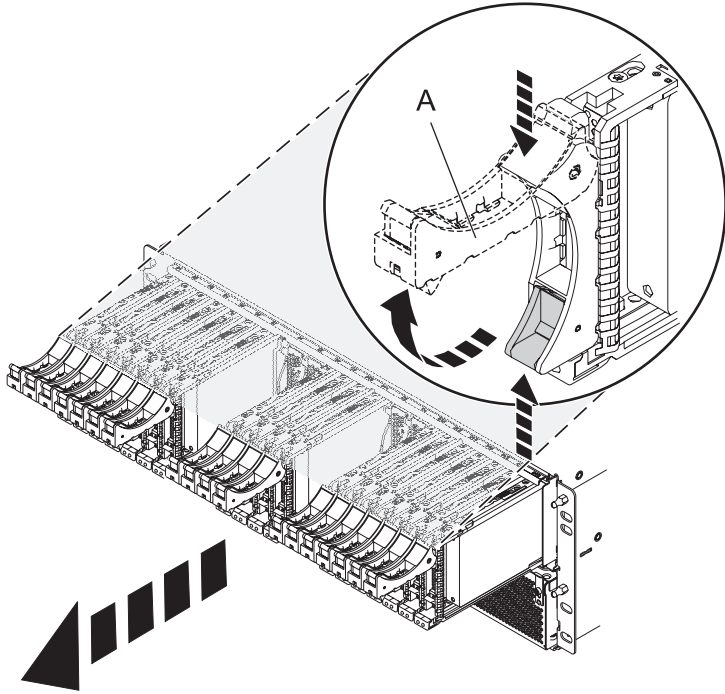

Figure 92. Removing the drives from the backplane
4. Remove the drives and fillers as shown in Figure 92 on page 121.
- a. Squeeze the latch of the drive and pull the handle (A) toward you to release the drive.